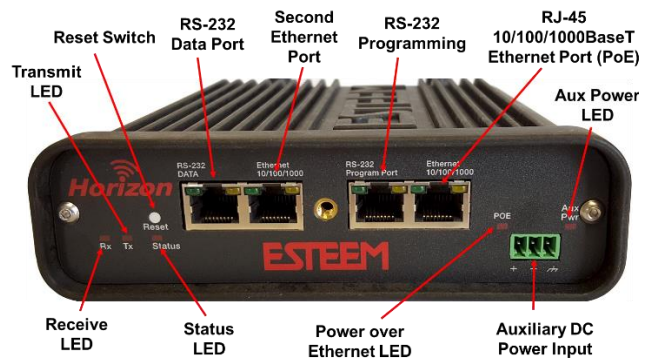

Figure 4: Horizon Front Panel Overview
The RJ-45 serial data port is the far-left port on the face of the Horizon (Figure 4). Using the ESTeem AA0621.1 interface cable, the Horizon can be connected to a standard DTE-device (PC) with a male 9-pin Sub-D connector. The complete cable configuration is available in Appendix C – Interface Ports.